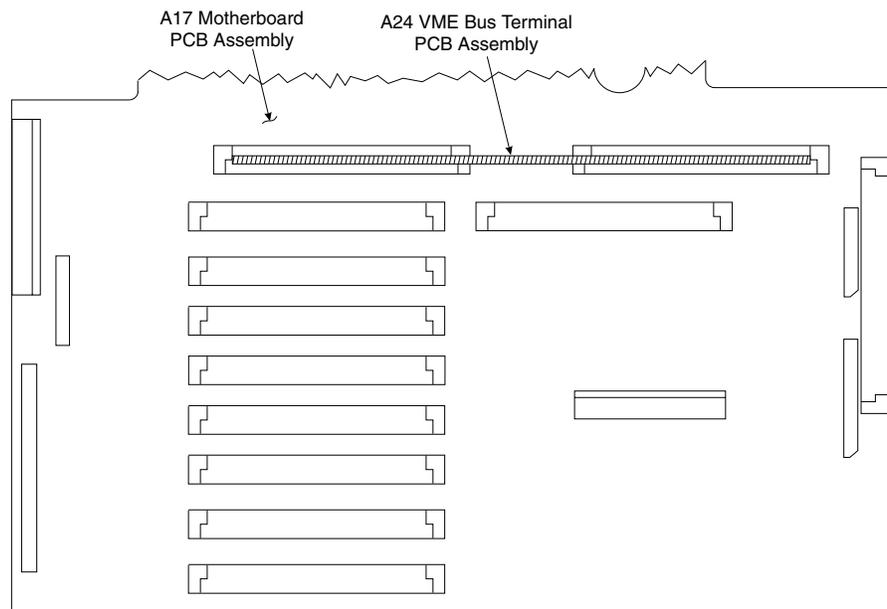

Figure 8-5. Location of the A24 VME Bus Terminator PCB Assembly
- Step 2.** Locate the A24 PCB assembly (Figure 8-5). Unplug A24 PCB assembly from the A17 Motherboard PCB by gently pulling straight up on each side.